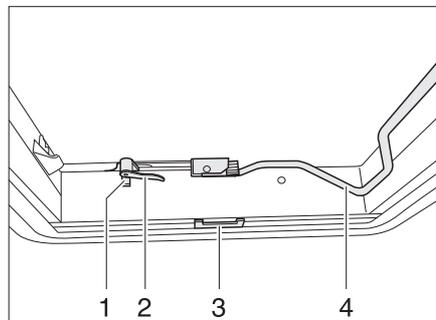
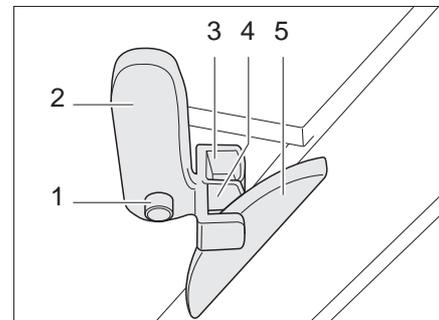

Fig. 48 Heki skylight, closed
Fig. 49 Heki skylight in ventilation position 1
- Press the safety knob (Fig. 48,1) and turn the catch lever (Fig. 48,2) one quarter turn inward.
- Pull the bar (Fig. 48,4) downwards out of the latch.
- Turn the catch levers (Fig. 48,2 and Fig. 49,2) one quarter turn. The hook of the roof lock (Fig. 49,5) must engage in the upper locking fork (Fig. 49,3).
- Press the safety knob (Fig. 49,1) and turn the catch lever (Fig. 49,2) back. The hook of the roof lock (Fig. 49,5) must engage in the lower locking fork (Fig. 49,4).